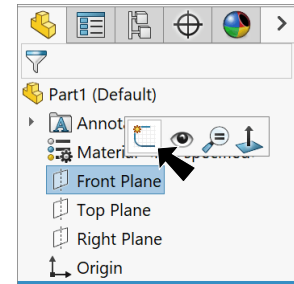
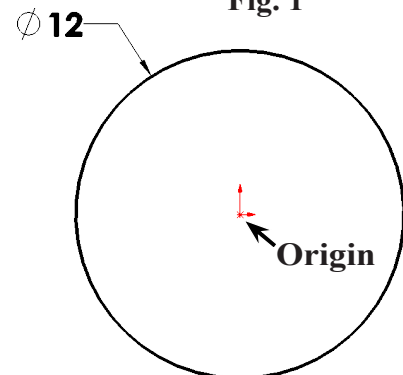

Fig. 1
Fig. 2
Step 2. Click **Front Plane**  in the Feature Manager and click **Sketch**  on the context toolbar, **Fig. 1**.
Step 3. Click **Circle**  (S) on the Sketch toolbar.
Step 4. Sketch circle at Origin , **Fig. 2**.
Step 5. Click **Smart Dimension**  (S) on the Sketch toolbar.
Step 6. Dimension **diameter 12**, **Fig. 2**.